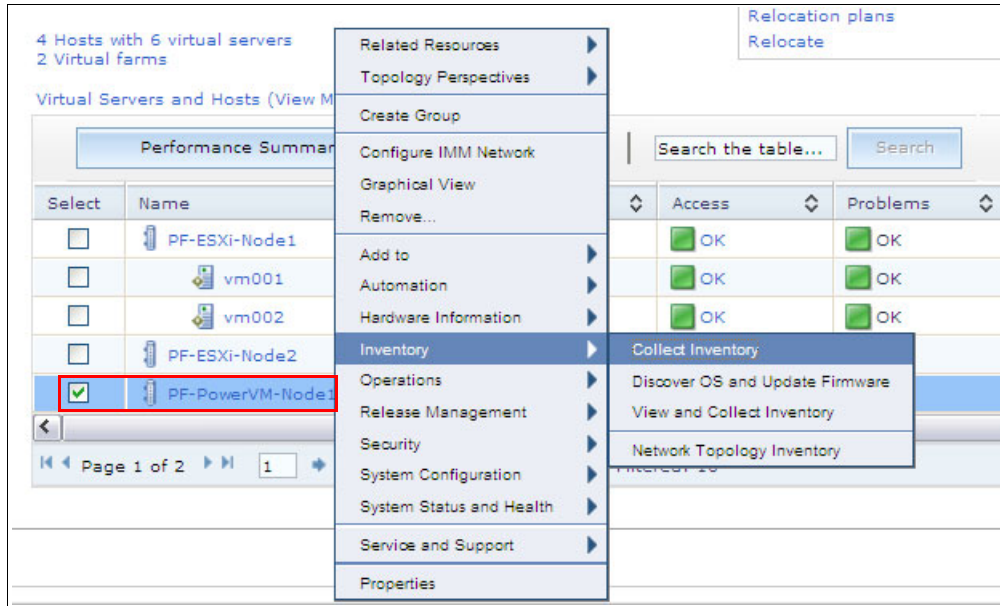

Figure 10-32 Running a Collect Inventory job
- From the **Virtual Servers/Hosts** tab, select the PowerVM node, then collect inventory for the physical server and for the VIO Server as shown in Figure 10-32.